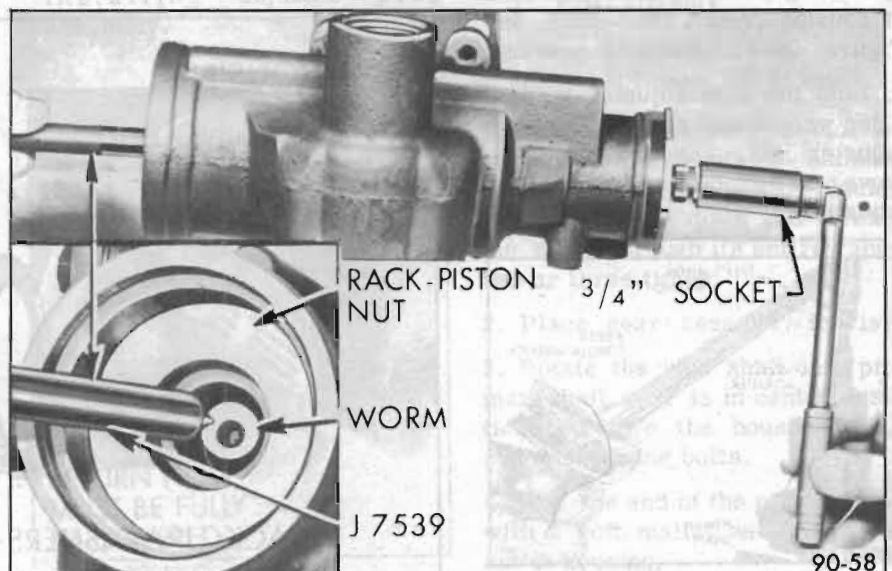

Figure 90-54—Removing Rack-Piston Nut
7. Insert ball retaining tool J-7539 in end of worm. See Figure 90-54. Turn stub shaft so that rack-piston nut will go onto the tool and remove rack-piston nut from gear housing. Keep ball retaining tool completely through rack-piston nut to prevent balls from falling out.